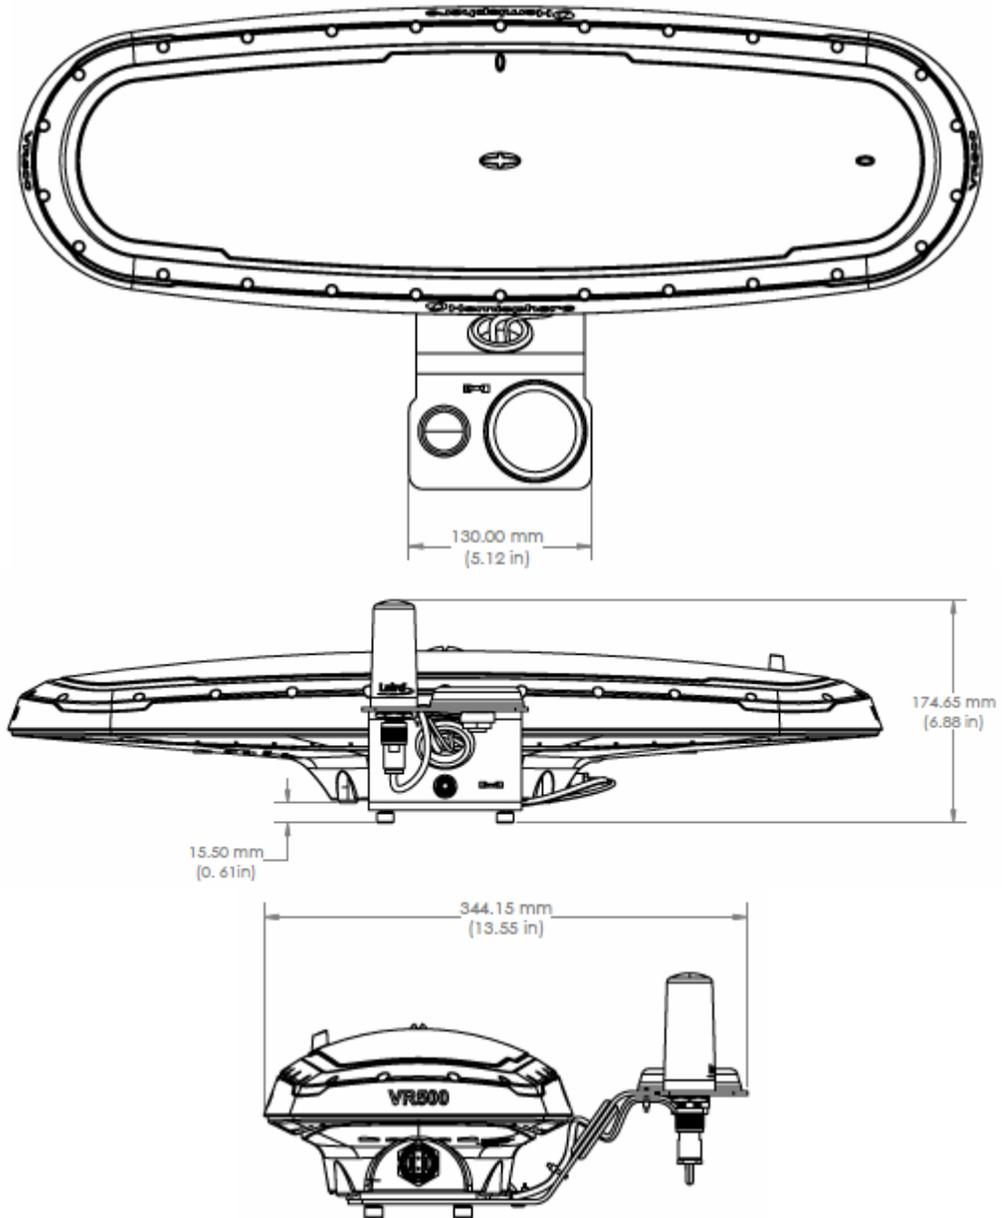

Figure 2-7 VR500 with remote antennas dimensions
1. **Flush-mount**-The bottom of the VR500 contains eight M8-1.25 holes for flush mounting the unit to a flat surface (see Figure 2-7). The eight holes comprise two sets of four holes. Flush mounting does not provide any additional dampening to the receiver. The VR500 can be mounted using an optional mounting bracket. See Table 1-1 for bracket part information.
Figure 2-7 shows the VR500 with remote antennas dimensions.